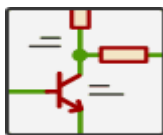

Figure 12.4 Schematic layout editor button
- Open the editor by double-clicking on the schematic file on the left, or by clicking on the Schematic Layout Editor button (Figure 12.4).